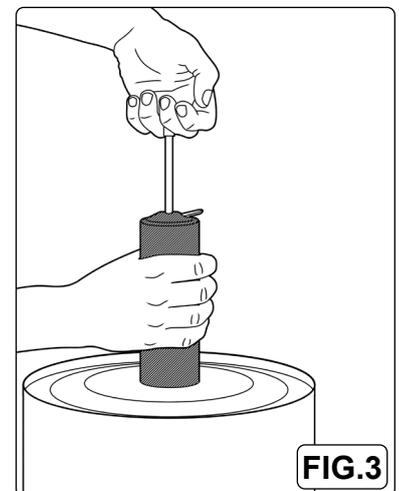

FIG.3
- 4.4.3. Submerge the open end of the grease tube into grease bucket by approximately 50mm (2") and slowly pull the plunger handle out fully (Fig 3).